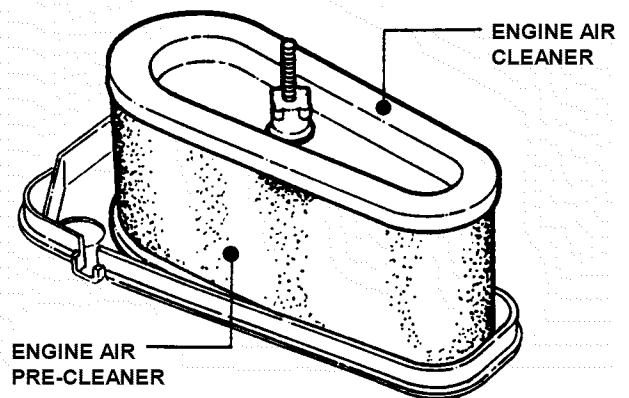

FIGURE 3.5
2. Remove and clean engine air pre-cleaner. See Figure 3.5. Refer to engine owner's manual for cleaning instructions.
3. Remove and replace engine air cleaner. See Figure 3.5. Refer to engine owner's manual for service instructions.